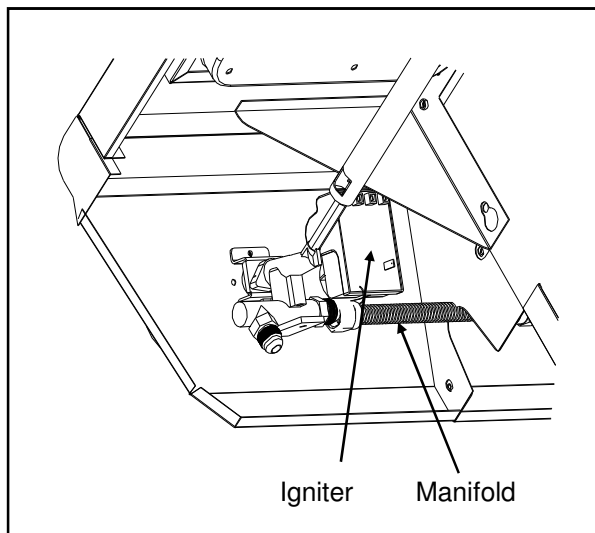

Fig.27
- (e) Push control knob (U) onto valve control stem, and tighten use hex wrench. See Fig.27.